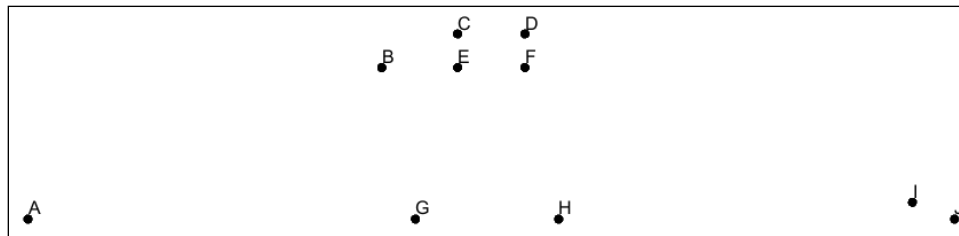

Figure 3 Points created in the profile lines coverage
9. Click **Frame Image** to center the view on the new points (Figure 3).